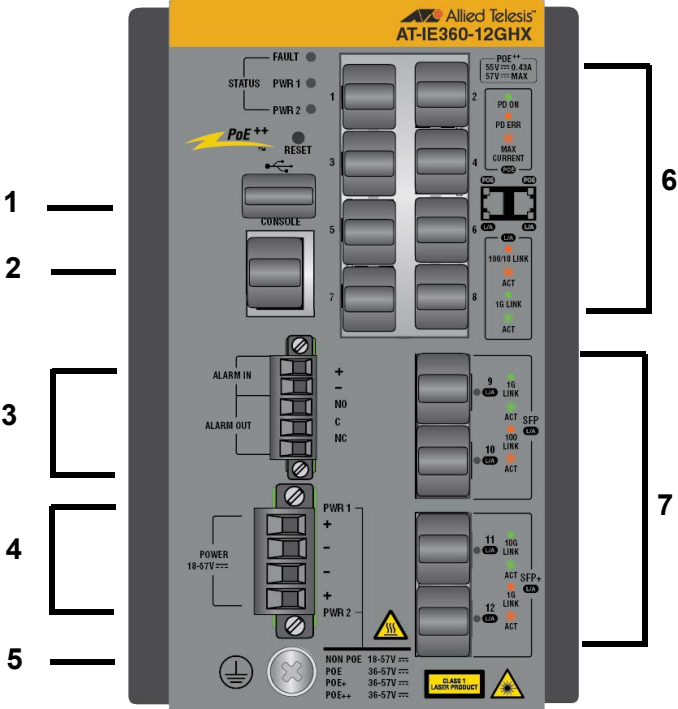

Figure 23. Pre-installed Components
3. Verify the contents of the shipping container. Figure 23 and Table 13 identify the pre-installed components.